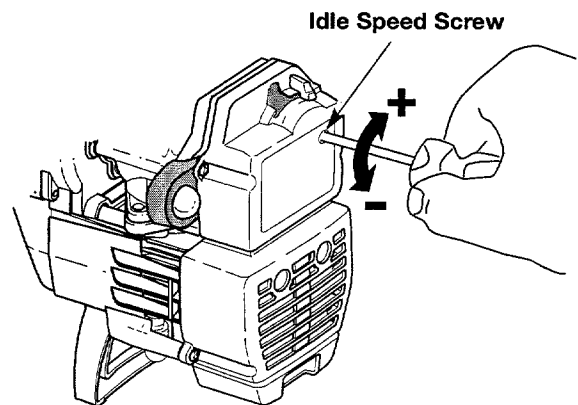

Figure 22
The idle speed adjuster of the engine is adjustable through the air filter/muffler cover. See Figure 22.
2. Release the throttle control and let the engine idle. If the engine stops, insert a small phillips or flat blade screwdriver into the hole in the air filter/muffler cover. Turn the idle speed screw in, clockwise, 1/8 of a turn at a time (as needed) until the engine idles smoothly. See Figure 22.